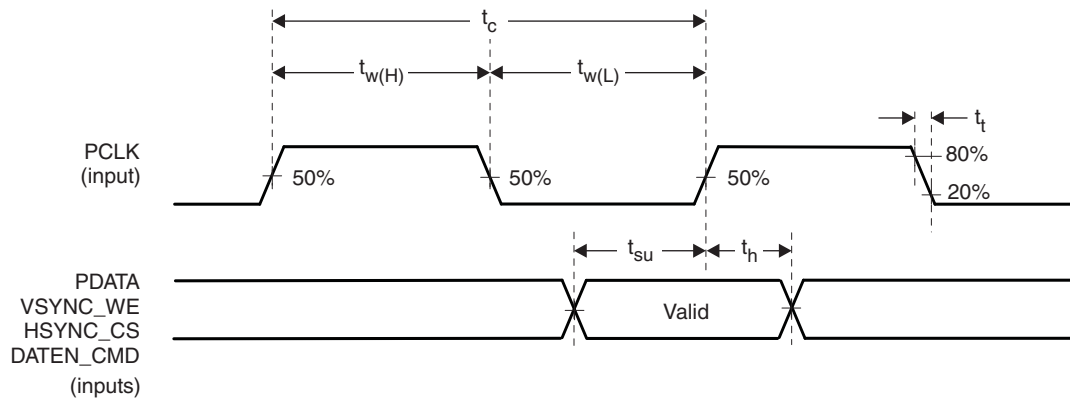

Figure 4. Input Port Interface
- (1) Contact TI for I²C, LED driver, power-up and power-down timing information.
- (2) PCLK may be inverted from that shown in Figure 4. In that case the same specifications in the table are valid except now referenced to the falling edge of the clock. If the falling edge of PCLK is to be used, an I²C command is needed to tell the DLPC100 to use the falling edge of PCLK.
- (3) Use the following formula to obtain the jitter. Jitter = [1/frequency – 30 ns]. Setup and hold must still be met.